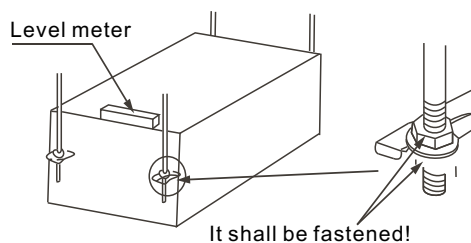

Figure 3.2
- 3) Confirm the levelness of the main body by the level meter (strictly prohibit the declination toward the non-drain side. It had better decline toward the drain side). Refer to Figure 3.2.